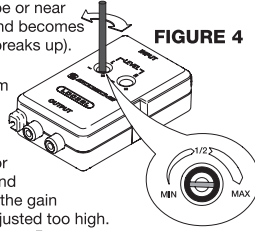

FIGURE 4
3. Use the included tool at the **LOC2SL** module and turn both gain controls all the way down (counterclockwise until they stop - Figure 4).